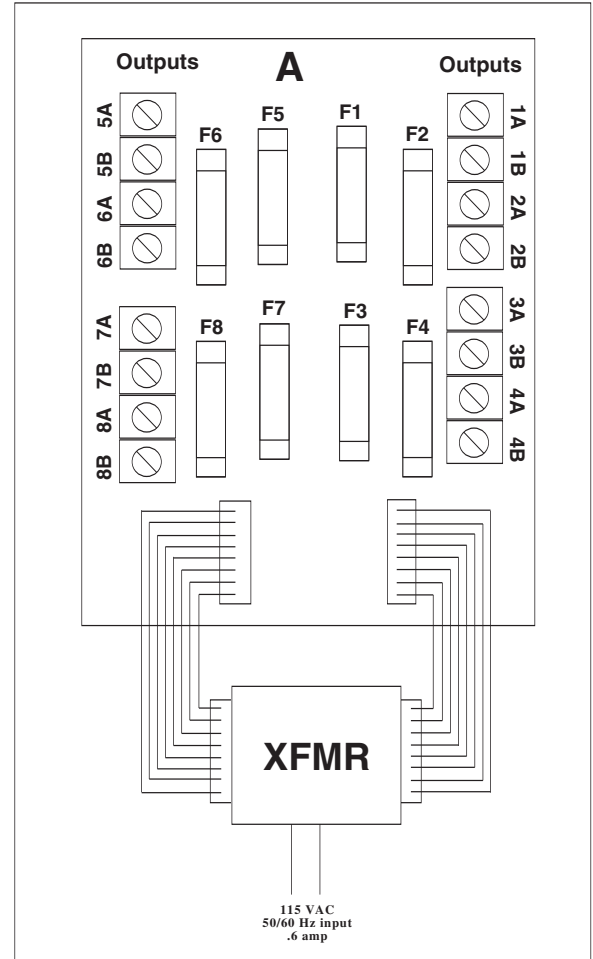

*Fig. 2*
- b) For power supply to provide **12VAC output** (*Fig. 2*) connect 115VAC input power to each of the black transformer leads (in this configuration the white transformer lead is not used).